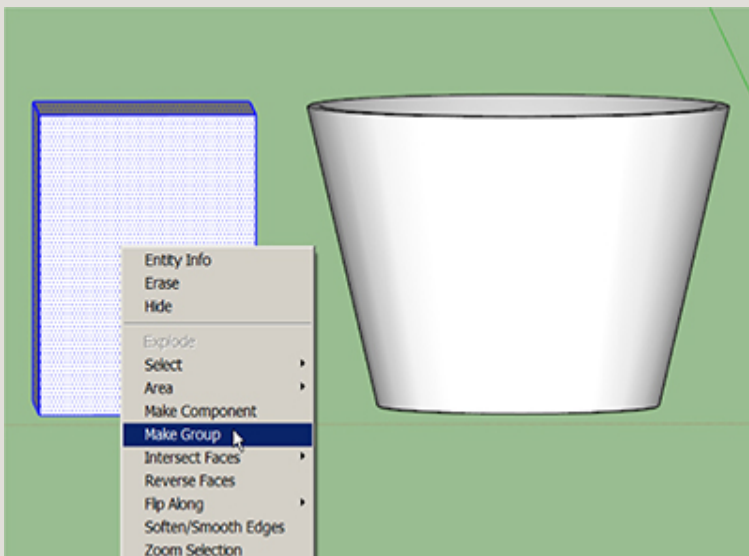

Figure 3-83 Display the model as a front view, and group the cube.
- c. Click the Views toolbar's Front icon, and then group the cube so that nothing sticks to it (Figure 3-83).